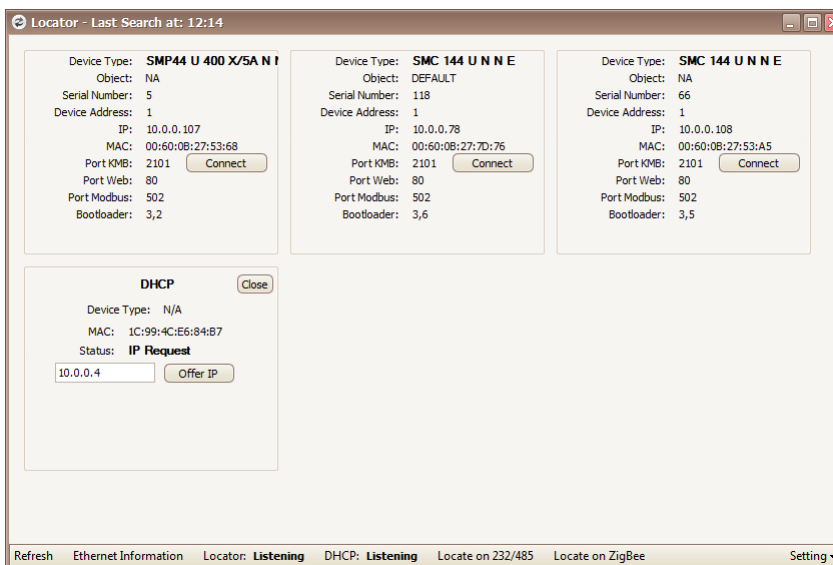

Figure 9: Window of *Locator* tool - provides automatic discovery of the supported instruments in a local network.
- (c) Ethernet: enter correct IP address and port (default: 2101). If you do not know the right values you can use *Locator*4 (fig. 9).